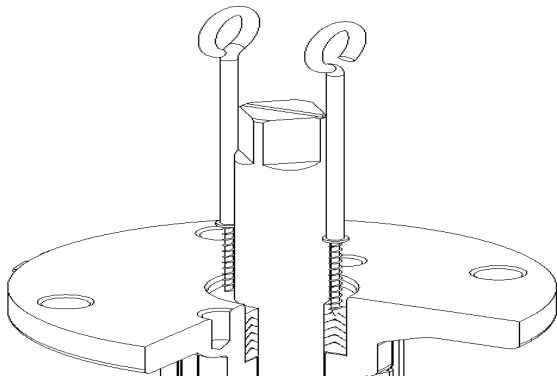
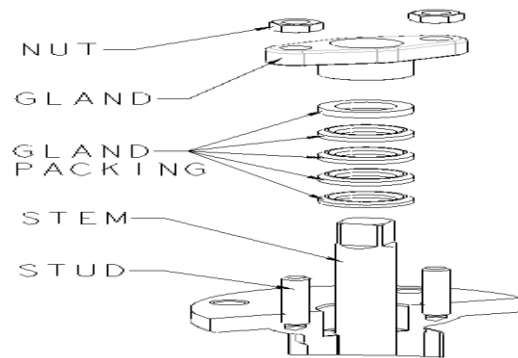

Fig. 15
Fig. 16
- Remove the complete packing from the gland packing using a flexible screw hook (Fig. 15). For gland packing that contain a lantern ring, use a puller with 10-32 threads to remove the lantern ring. Save the lantern ring for reuse, but discard the other packing material. Please replace the complete gland packing. It can either be made of graphite or PTFE. (Fig.16)